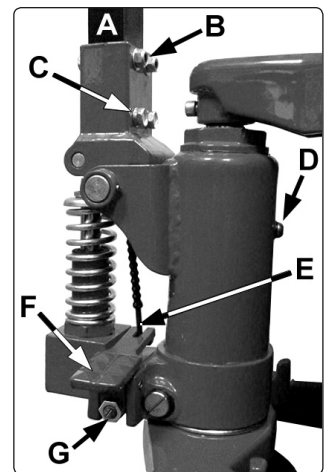

fig 2
- 3.1 **Assembling the handle to the truck. (see fig.2)**
- 4.12 Bring the truck to a stop where required and lower the load to the floor by pulling the operating lever to its highest position and holding it there until the load has settled to the floor. Alternatively the load can be lowered by pressing the foot pedal. (See fig.2 - F)
- 5.3 Fine adjustment is done using the nut on the threaded rod at the end of the operating chain. (See fig.2 - E). To access this nut hold down the foot pedal and slide the rod out of the slot in the end of the pedal. Rotate the nut in the desired direction and re-insert the rod into the slot. If this adjustment is too fine use the main adjusting screw and locknut below the foot pedal. (see G in fig.2.)
- 6.1 The oil level should be checked every six months. The system contains 0.4lt of hydraulic oil which should conform to ISO VG32. The viscosity should be 32cSt at 40°C . (See oil level / filler screw 'D' in fig.2)